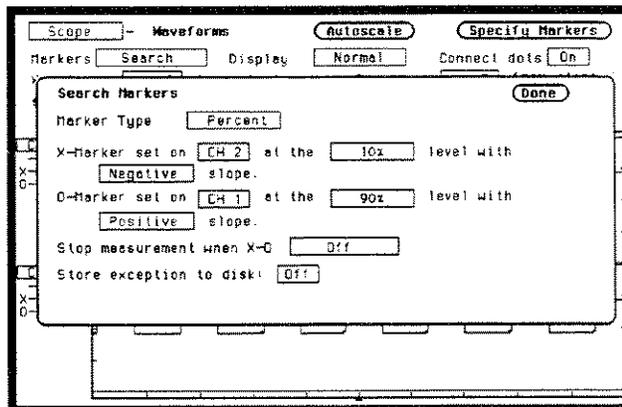

Figure 25-22. Specify Search Markers Pop-up
2. Select Specify Search Markers. Set the Search Markers pop-up as shown in figure 25-22.